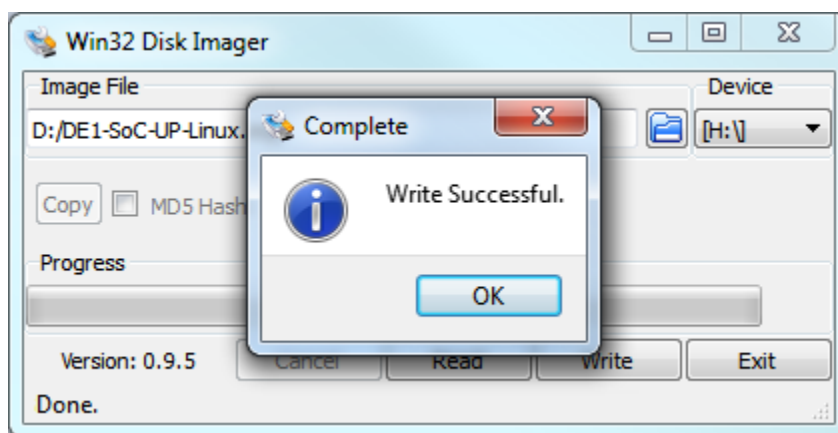

Figure 2. Writing a file to the microSD card using Win32 Disk Imager.
4. Click Write to write the microSD card. If prompted to confirm the overwrite, press yes. Once the writing is complete, you will see the success dialog shown in Figure 2.